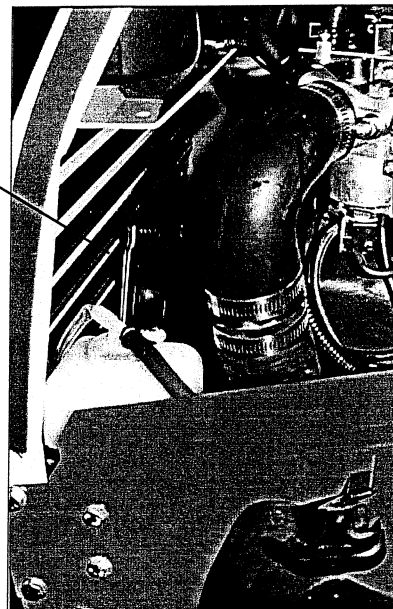

Figure 53
4. Rotate clutch brake assembly to maximize the clearance between clutch and grille. (Figure 53)